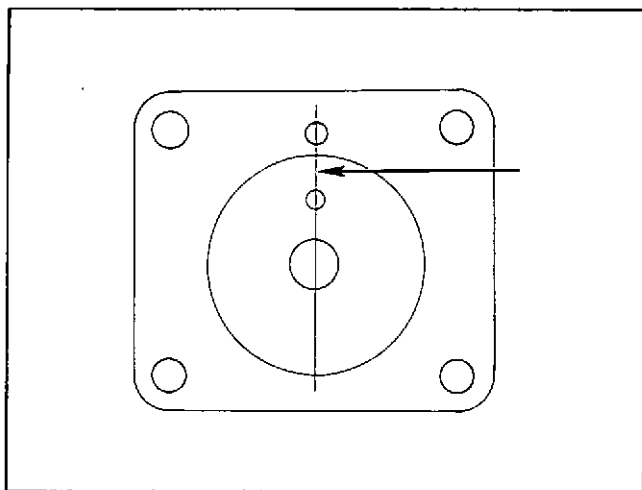

Fig. 4-7, (F5209). Mark the barrel and housing for alignment.
1. The aluminum housing must be marked, Fig. 4-7. This will align the fuel vent hole of the housing and the vent hole in the new barrel.
4. Mark the new replacement governor barrel as shown in Fig. 4-7. The line must go through the center of the plunger bore and the center of the 1/8 inch [3.17 mm] diameter fuel vent hole.